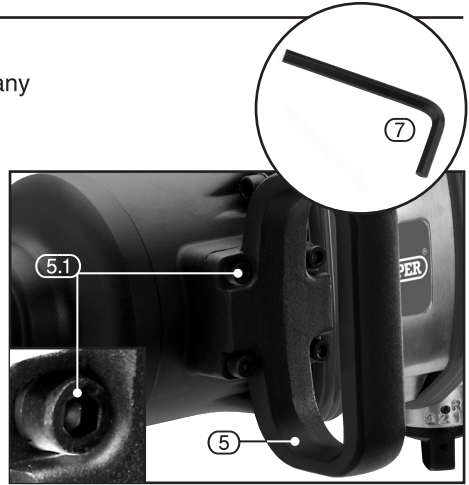

FIG.4
8.5 REMOVABLE SIDE HANDLE – FIG. 4